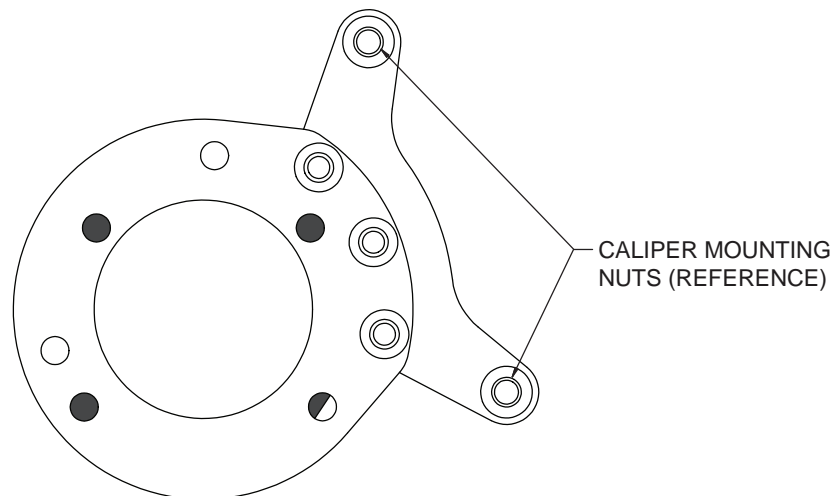
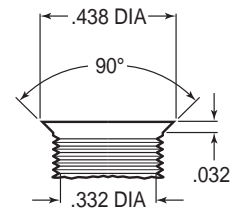
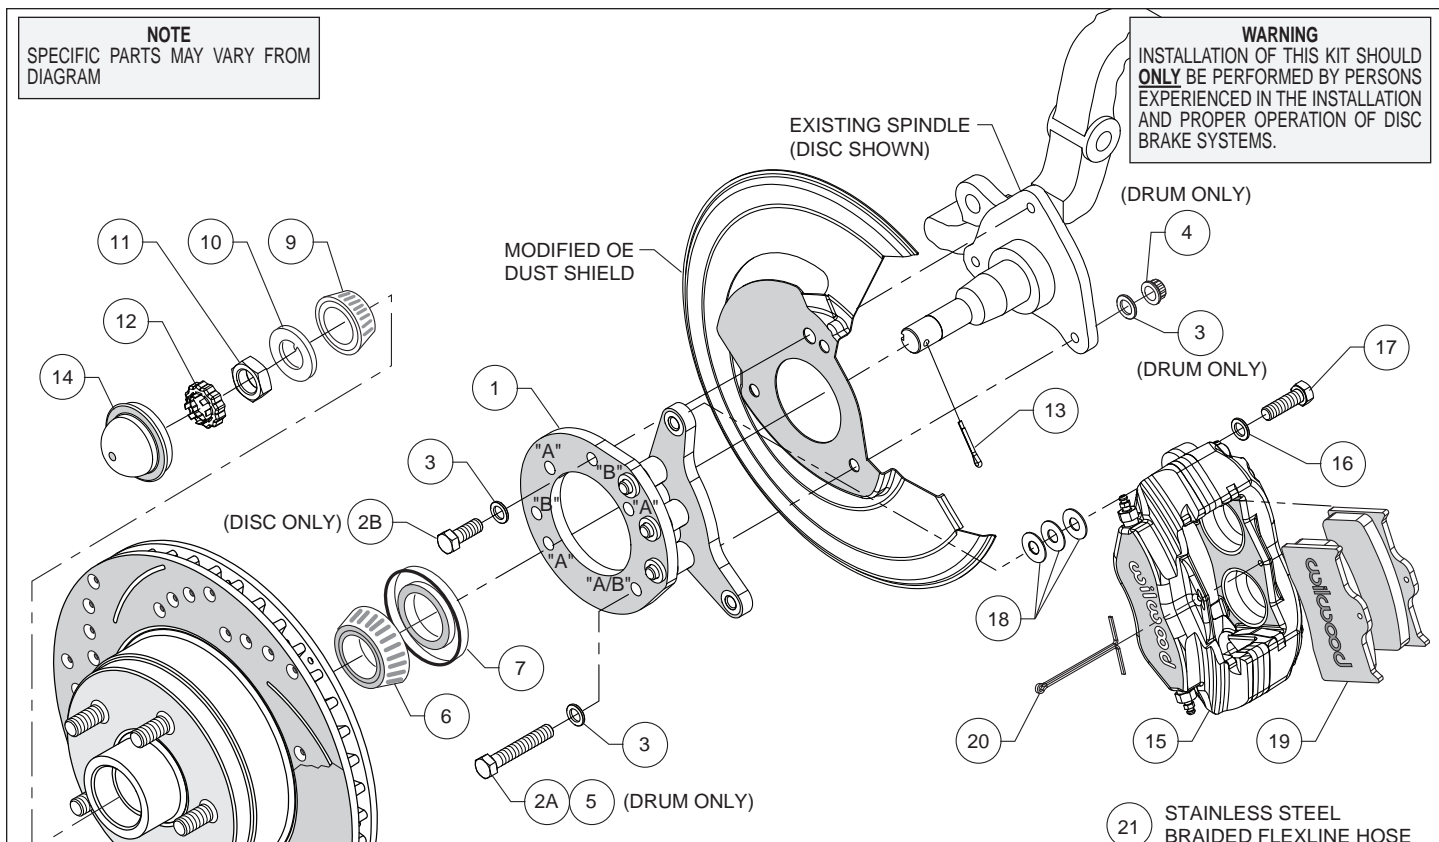

Figure 1. Wilwood Caliper Mounting Bracket
Figure 2. Drill and Tap Detail
Figure 4. Typical Installation Configuration
This kit has been designed for use with both the disc brake or the drum brake configuration of vehicle. The only difference is in how the Wilwood caliper mounting bracket is installed. The same bracket is used for both configurations; the disc brake version utilizes three mounting holes while the drum brake application uses four mounting holes (see Figure 1). For your convenience we have supplied bolt kits for both applications (see parts list and Figure 4 as necessary). Use the bolt kit that is applicable to your vehicle and disregard the other one.
NOTE: This modification should be performed by a qualified machinist and completed before assembly of the Wilwood disc brake kit begins. Using the caliper mounting bracket as a template (refer to Figure 1 as necessary), locate and verify the three original holes on the spindle that need to be modified. Drill a .332" diameter hole through all three holes, then tap 3/8-24 UNF (fine thread). Countersink the holes to .438" diameter x 90°, as shown in Figure 2.
Assembly Instructions (numbers in parenthesis refer to the parts list, and Figure 4): **CAUTION:** All mounting bolts must fully engage clinch nuts. Be sure to check that all bolts are either flush or protruding through flanged side of clinch nut after shimming, Figure 5.
•**NOTE:** This kit uses the same mounting bracket (1) for both the drum and disc brake spindles. The drum version, Photo 1, uses four mounting bolts (designated "A"), while the disc version, Photo 2, uses three (designated "B"). Refer to Figures 1 and 4 for the basic installation position of the bracket and the "A" and "B" reference designations (not physically marked on the brackets).
For Drum Spindle: Align bracket, using the four "A" holes, to the face of the spindle and attach using bolts (2A and 5), washers (3), and lock nuts (4), as shown in Figure 4 and Photo 1. Ensure that the flanged heads of the clinch nuts in the bracket are facing outboard. Torque nuts to 30 ft-lb.
For Disc Spindle: Align bracket, using the three "B" holes, to the face of the spindle and attach using bolts (2B) and washers (3), as shown in Figure 4 and Photo 2. Finger tighten. Ensure that the flanged heads of the clinch nuts in the bracket are facing outboard. Remove bolts one at a time, apply red *Loctite*® 271 to threads, and torque to 40 ft-lb.
•Pack the large inner bearing cone (6) with high temperature disc brake bearing grease (available from your local auto parts store) and install into the backside of the hub (8), Photo 3.
•Install the grease seal (7) by pressing into the backside of the hub (8), flush with the end of the hub.
•Pack the small outer bearing cone (9) with high temperature disc brake bearing grease and install into the front side of the hub (8). Slide the hub/rotor onto the spindle. Secure using spindle washer (10) and spindle nut (11). Adjust bearings per OEM specifications. Install spindle nut retainer (12) and a new cotter pin (13), Photo 4.
•Press the dust cap (14) into hub (8), Photo 5.
•**NOTE:** Please reference the caution statement at the beginning of the assembly instructions. Mount the caliper (15) onto the caliper mounting bracket (1) using bolts (17) and washers (16), as shown in Figure 4. Initially place three .035" thick shims (18) on each bolt between the caliper and the bracket, Photo 6. Temporarily tighten the mounting bolts and view the rotor (8) through the top opening of the caliper. The rotor should be centered in the caliper, Photo 7. If not, adjust by adding or subtracting shims between the bracket and the caliper. Always use the same amount of shims on each of the two mounting bolts. **NOTE:** The end of each bolt must be flush with or slightly protruding from the head of the clinch nut, as shown in Figure 5. If necessary place spare shims between washer (16) and caliper mounting ear to achieve the proper clinch nut engagement. Once the caliper alignment and clinch nut engagement are correct, remove the bolts one at a time, apply red *Loctite*® 271 to bolt threads, and torque to 40 ft-lb.